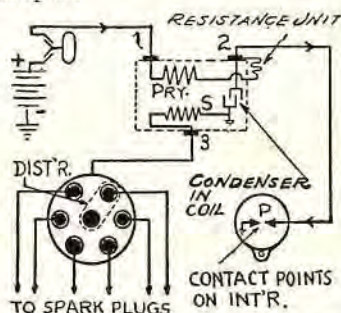

Fig. 1A. Circuit when using coil shown in Fig. 1.
Fig. 1A illustrates a grounded ignition circuit using a condenser in the coil and a single distributor and interrupter.
The primary circuit (Fig. 1A) runs from (+) of battery, to ignition switch to terminal (1) of the coil, through primary winding, through "resistance unit," to coil terminal (2), to the insulated interrupter contact point, across contact points (P), to grounded interrupter contact, to grounded (-) terminal of the battery, thus completing the primary low-tension circuit.